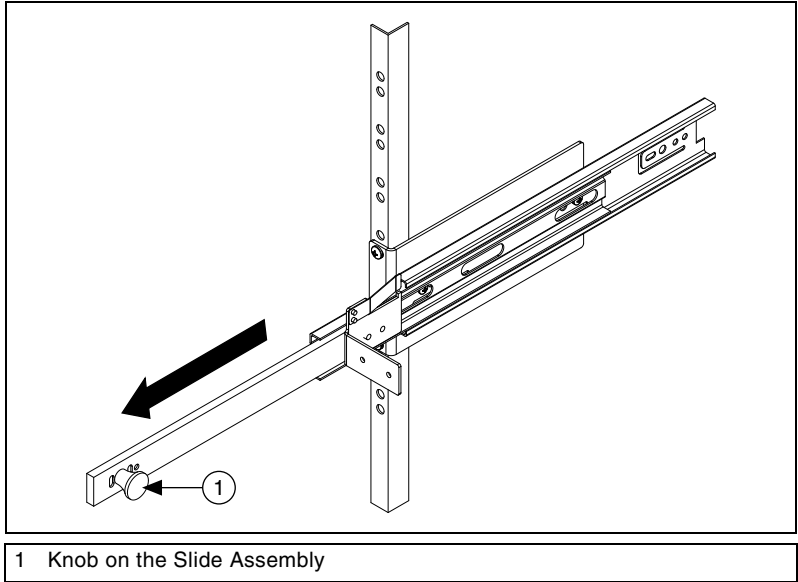

Figure 3. Locking a Slide Assembly
- Use the knobs on the slide assemblies to pull the slides forward until they lock, as shown in Figure 3.